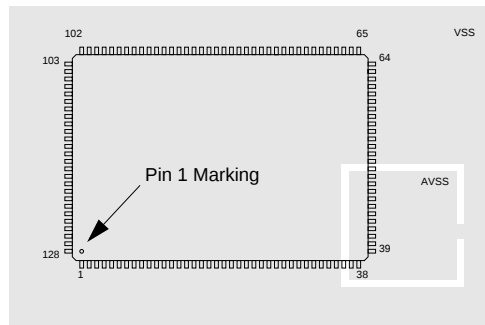

Figure 10. V_{SS} Plane Layout Example
- A separate, low-impedance, ground plane for analog ground is recommended. This plane provides the ground point for the voltage dividers. Although such a plane provides the best performance, it is not mandatory, and systems with a sufficiently low noise level can be designed without it. Figure 10 shows an example plane layout.